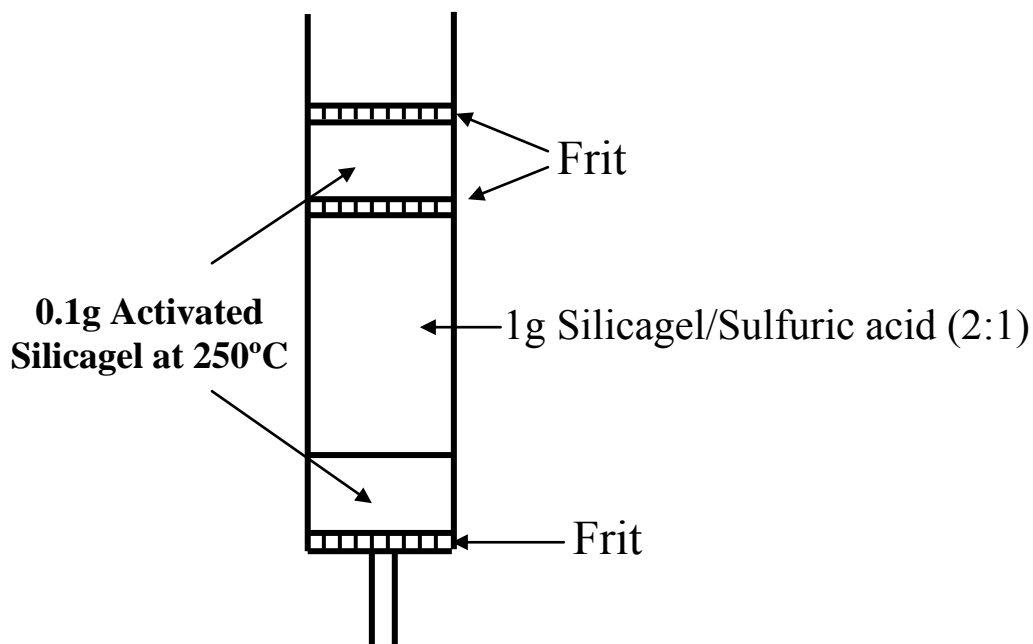

Figure 1 Clean Up Column
1. The analyst will then pack a two layered clean up column with one frit on bottom, ~1.0g of silicagel/sulfuric acid (2:1 w/w), a frit added, ~0.1g silicagel, and a frit placed on top (Refer to figure 1)